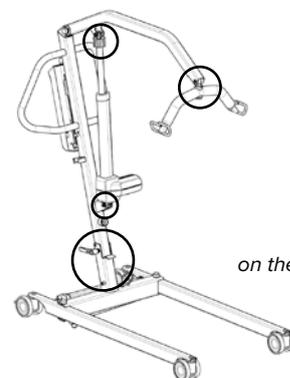

Fig. 2: Location of areas with pinch points on the SAMSOFTE ELITE 180
- ! Pinch points of the body extremities are present in several places on the patient lift (Fig. 2).**